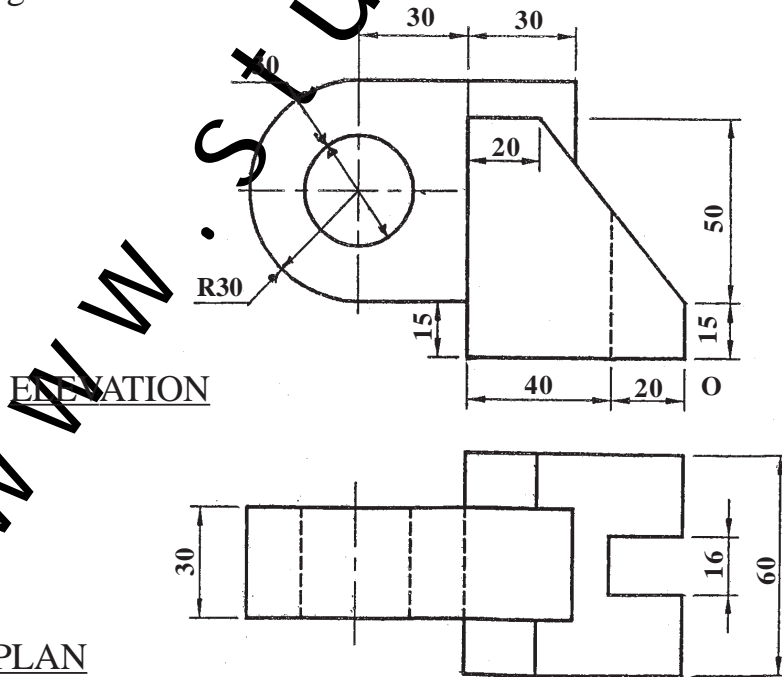

Fig. 6
Q.8) Fig. 6 shows the Orthographic Views of an object by First Angle Method of Projection. Draw its Isometric View taking origin at 'O' and give all dimensions : [17+3]